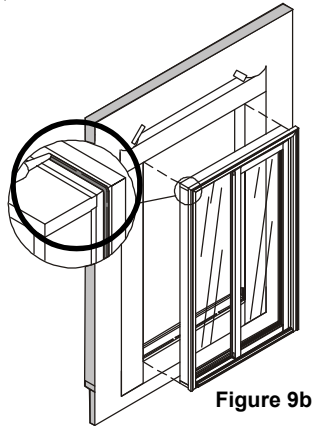

Figure 9b
**Casing:** Apply a continuous bead of sealant approximately 3/8" in diameter to the backside of the casing prior to setting the unit into position (fig9b).